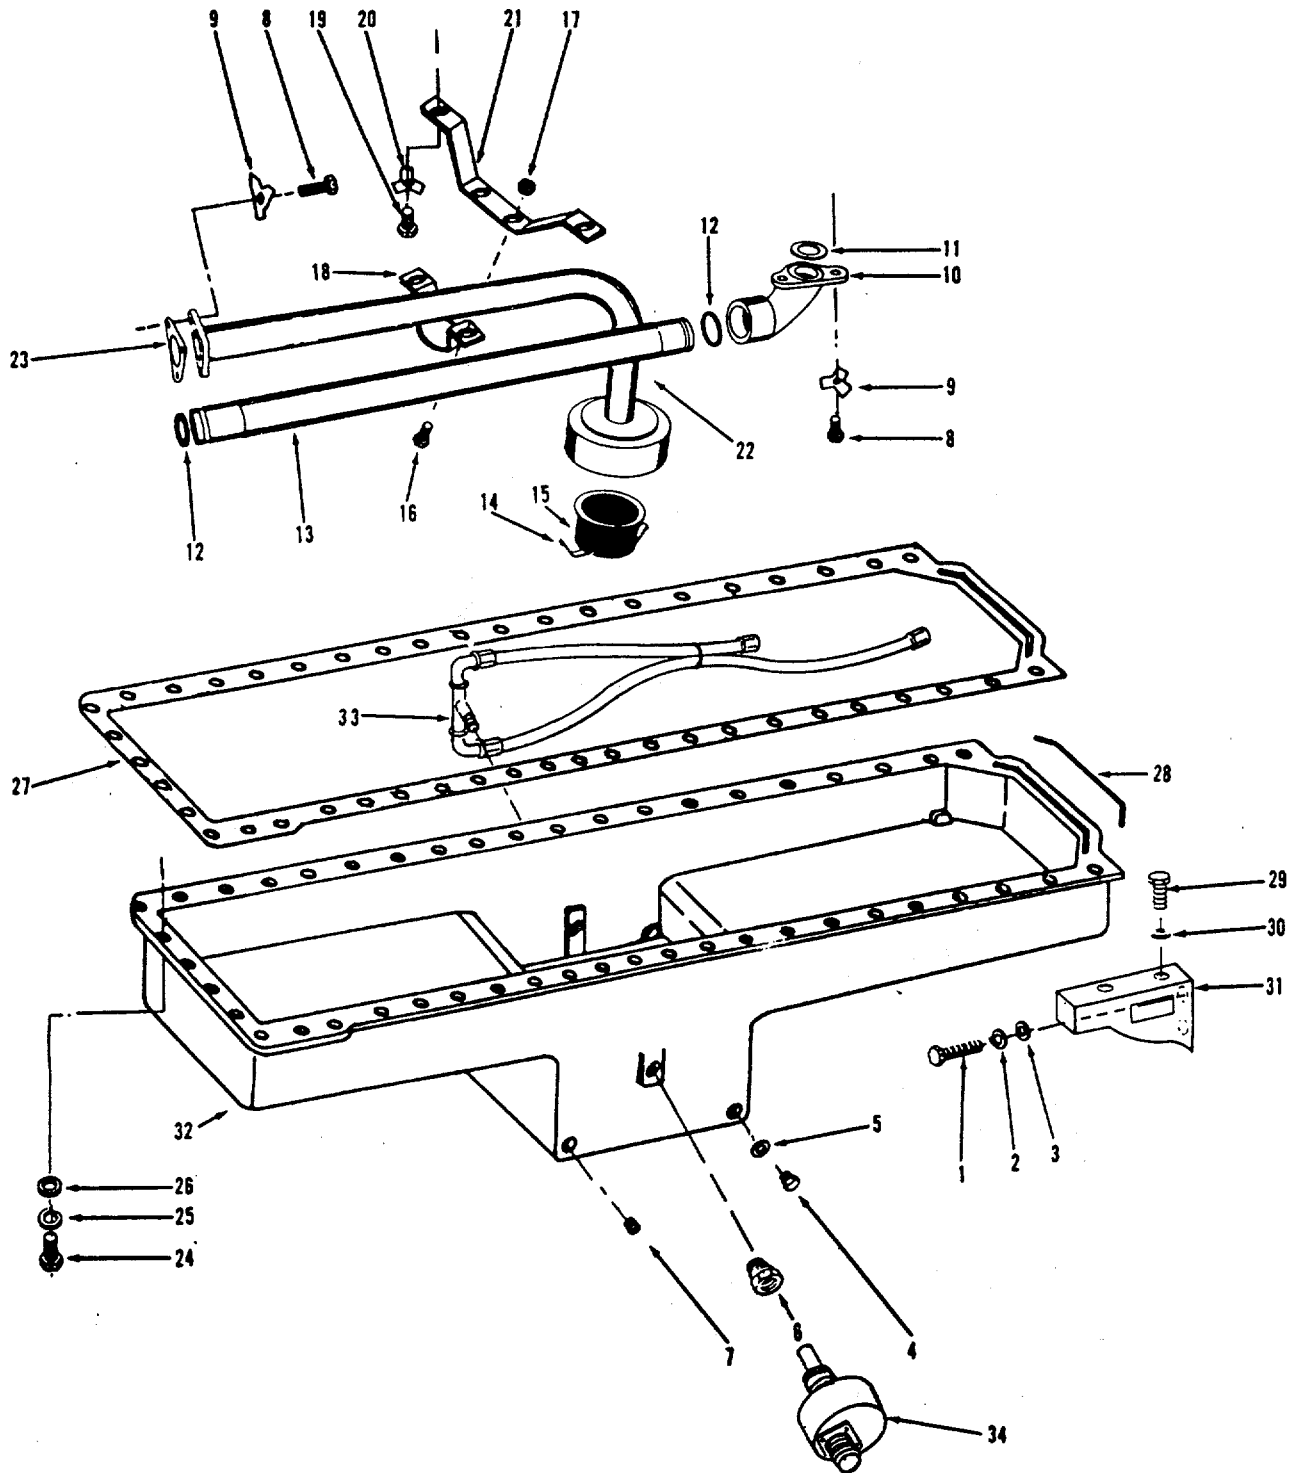

Figure 13-34. Oil Pan Assembly, Exploded View
13-20 OIL PAN ASSEMBLY. To replace or repair the oil pan assembly, refer to figure 13-34, and proceed as follows:
- (1) Drain oil in accordance with the Operator/Crew and Organizational Maintenance manual.
- (2) Disconnect temperature sensor (34, figure 13-34) electrical connector. Remove screw and washer securing temperature sensor cable clamp, then move and secure cable away from work area.
- (3) Disconnect engine preheat hose coupling on radiator line and two couplings on preheater assembly, then remove three screws and washers securing preheat hose support brackets to engine. Move and secure preheat hoses away from work area.
- (4) Remove four nuts and washers from preheater assembly V-bolts, then move and secure preheater assembly away from work area.
- (5) Disconnect fuel inlet hose coupling at fuel filters, then move and secure hose away from work area.
- (6) Remove six screws securing ether line support clamps to engine, then loosen ether line fittings from manifolds and solenoid valve (located on upright support) to remove ether lines. Store ether lines in a safe place to avoid damaging them.
- (7) Disconnect two bypass oil filter hose couplings from tee on oil pan.
- (8) Disconnect bypass oil filter inlet hose coupling at top of rear bypass oil filter, then remove six screws securing bypass oil filter support bracket to engine block to remove bypass oil filter assembly.
- (9) Remove two support brackets (31, figure 13-34) from generator end of oil pan by removing screws (1), lockwashers (2), washers (3), screws (29), and lockwashers (30).
- (10) Remove two screws and washers securing battery cable clamps to engine. Using a suitable rope or cord, tie battery cables to upper engine block out of the way of the work area.
- (11) Remove 45 screws (24), lockwashers (25), and washers (26), and drop oil pan (32).
- (12) Remove three screws (8), lockplate (9), screws (16), clamp (18), and tube assembly (22), and remove oil pan.
- (13) Remove all gasket material from oil pan mating surfaces.
LEGEND FOR FIGURE 13-34
(1) Install screen assembly (15, figure 13-34) with clamp (18), screws (16), lockplate (9) and screws (8).
(2) Check for proper location of oil gauge hole in relation to oil gauge tube location.
(3) Install new seal and gasket (28 and 27) in groove at rear of pan. Use grease to hold seal and gasket in place.
(4) Assemble oil pan (32) to block with 45 screws (24), washers (26), and lockwashers (25), but leave screws loose.
- (5) Snug tighten screws (24) at four corners.
- (6) Finish tightening oil pan screws. Torque to 20 to 25 foot-pounds (27 to 34 joules).
- (7) Install two screws and washers securing battery cables and clamps to engine.
- (8) Install support brackets (31) with screws (1), lockwashers (2), washers (3), screws (29), and lockwashers (30).
- (9) Install six screws securing bypass oil filter support bracket to engine block, then connect bypass oil filter inlet hose coupling at top of rear bypass oil filter.
- (10) Connect two bypass oil filter hose couplings to tie on oil pan.
- (11) Install ether lines with six clamps and screws and attach ether line fittings at manifolds and solenoid valve.